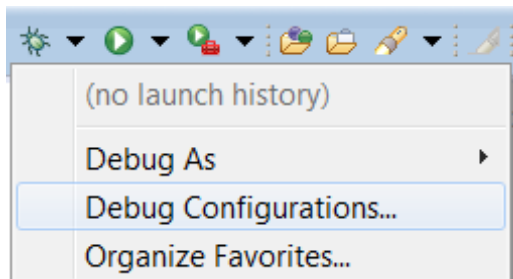

Figure 2.18 Debug options
1. Click the drop-down menu for the debug icon, as shown in Figure 2.18.